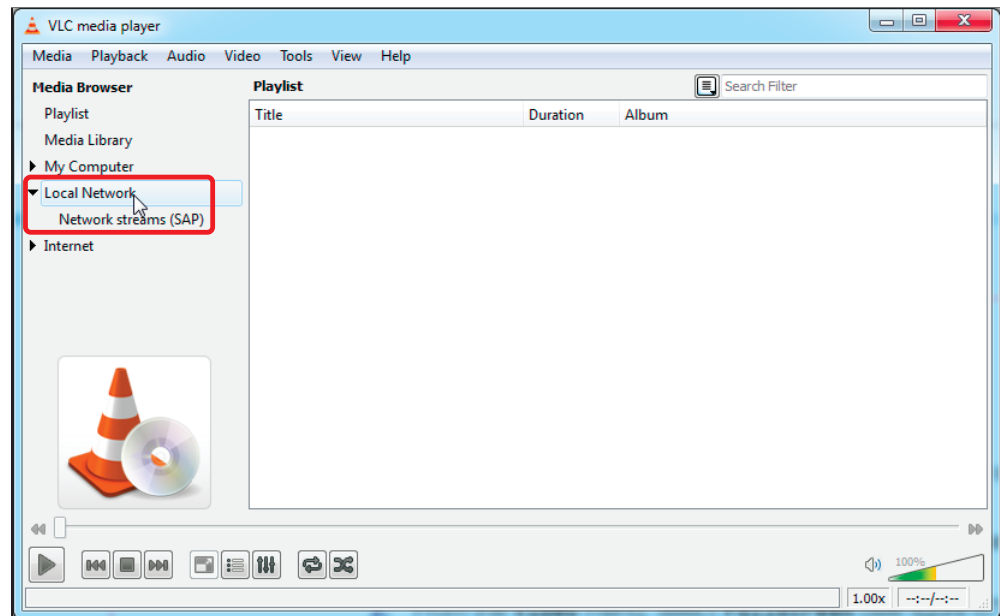

Figure 108. Select Local Network Streams
- From the left menu column, select **Local Network**, then select **Network streams (SAP)** (see figure 108).